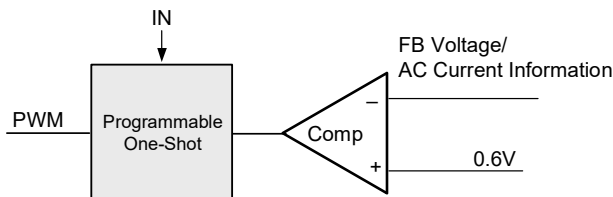

Figure 3. Simplified Control Schematic of AOZ2261NQi-11
The simplified control schematic is shown in Figure. 3. The high-side switch on-time is determined solely by a one-shot whose pulse width can be programmed by one external resistor and is inversely proportional to input voltage (IN). The one-shot is triggered when the internal 0.6V is higher than the combined information of FB voltage and the AC current information of inductor, which is processed and obtained through the sensed lower-side MOSFET current once it turns-on. The added AC current information can help the stability of constant-on time control even with pure ceramic output capacitors, which have very low ESR. The AC current information has no DC offset, which does not cause offset with output load change, which is fundamentally different from other V^2 constant-on time control schemes.